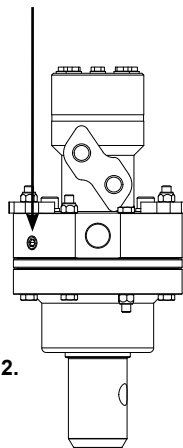

Fig 2.
3. Remove the ¼ inch BSP drain plug (Fig 2. pg29) using an allen key.
3. Remove ¼ inch BSP drain plug using (Fig 2. pg29) an allen key.